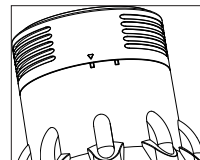

Рис. 2
- Clean the outlet filter (14) as it becomes dirty.
- Turn the outlet filter grid (7) counterclockwise (fig. 2) and remove it.
- Remove the outlet filter (14).
- Carefully wash the filter (14) under warm water jet and then dry it.
- Install the outlet filter (14) back to its place, install the grid (7), matching the symbol «▼» on the grid (7) with a large symbol on the vacuum cleaner body (fig. 2) and turn the grid (7) clockwise until bumping.